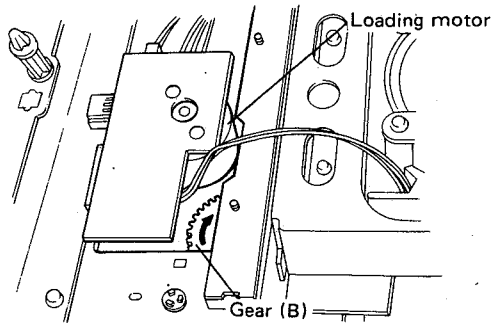

Fig. 10
4. Turn the gear (B) clockwise by inserting your finger through the rectangular hole on the side of the loading motor; the turntable will move down and the disc tray will open. (Fig. 10) When the disc tray comes out a little, it can be opened with your hand.